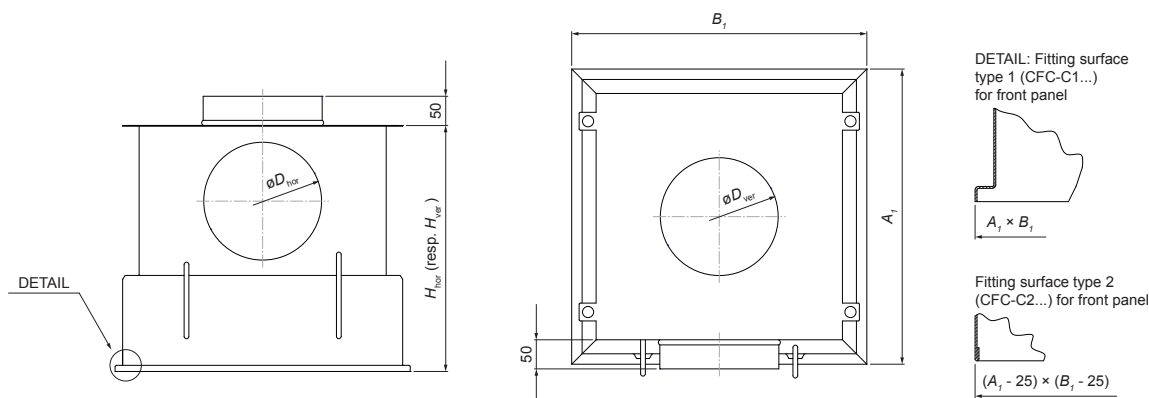

Fig. 1: Ceiling clean filtering cassette CFC-C (Classic)
1. See „Detail“ in Fig. 1... Fig. 4. Not defined for design type W (Wall).